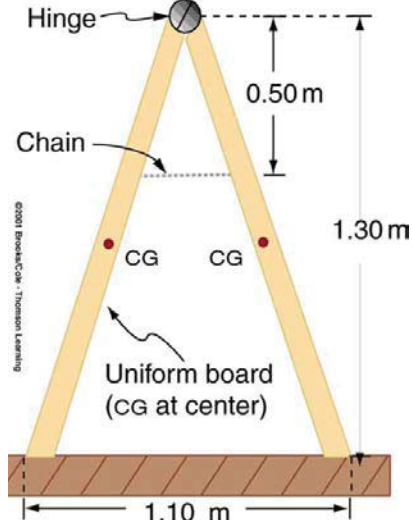

Figure 9.35 A sandwich board advertising sign demonstrates tension.
- A sandwich board advertising sign is constructed as shown in **Figure 9.35**. The sign's mass is 8.00 kg. (a) Calculate the tension in the chain
15. (a) What minimum coefficient of friction is needed between the legs and the ground to keep the sign in Figure 9.35 in the position shown if the chain breaks? (b) What force is exerted by each side on the hinge?